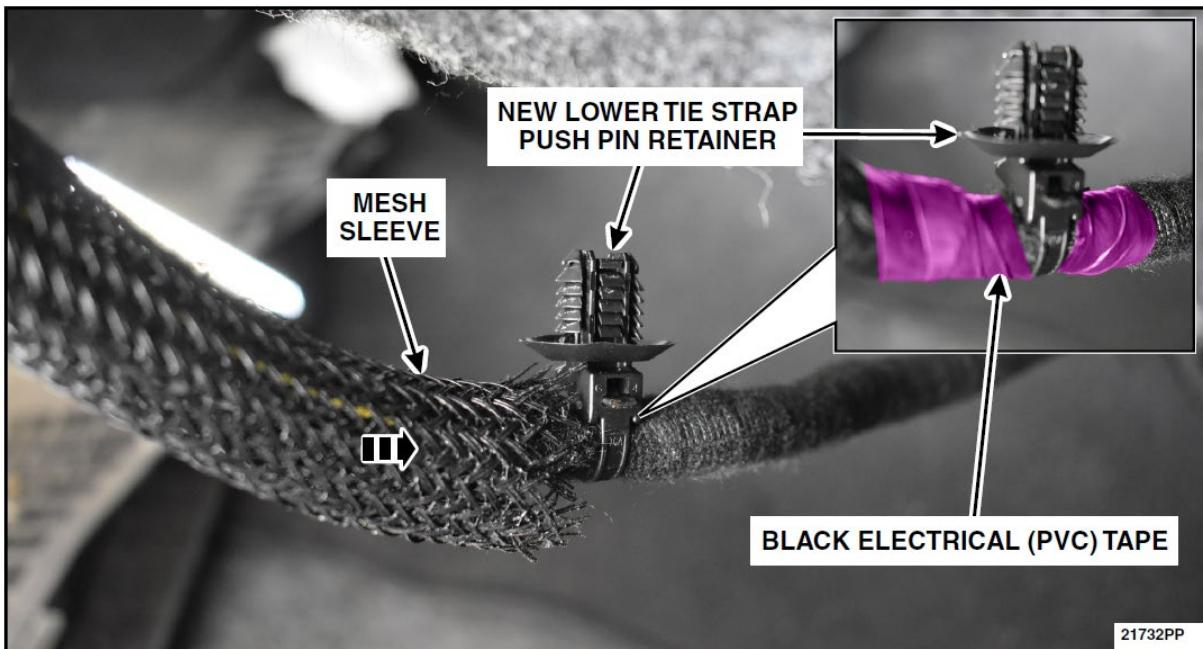

FIGURE 49
68. the mesh sleeve to the new lower tie strap push pin retainer and secure using some KTI73510 or equivalent black electrical (PVC) tape. See Figure 49.